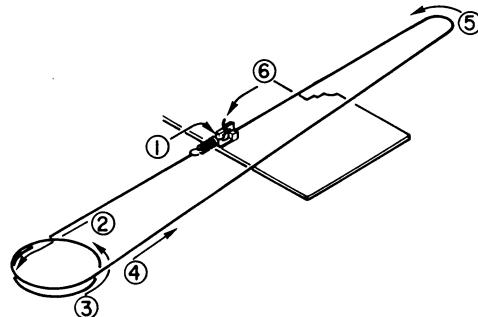

Figure 17
1. After inserting the tone arm into the cut out section of the cabinet, pass the 2 rails (23) through the Bracket Assembly and fasten the rails with the screws (40) (in 3 places).
2. Insert the shaft (25) into the cabinet and attach the worm wheel gear (26).
3. Affix the string (28) in the order shown in Figures 17 and 18.